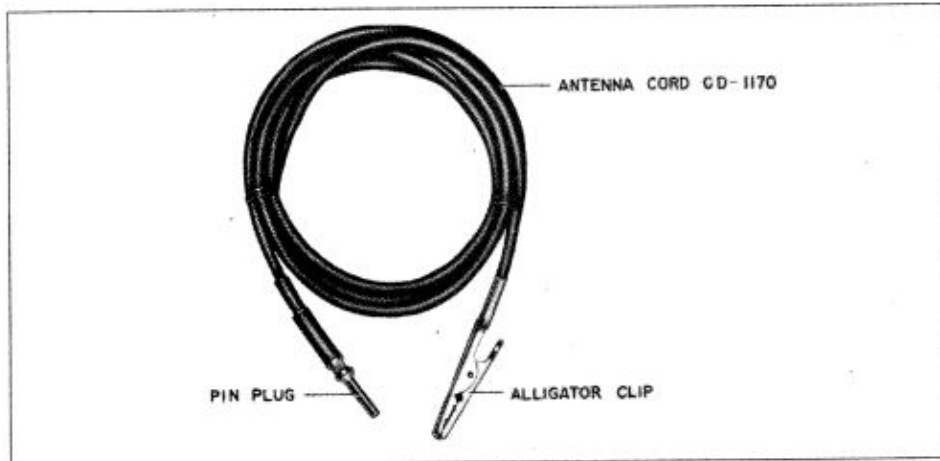

Figure 8—Cord CD-1170
f. CORD CD-1170.—This cord is 3 feet, $2\frac{3}{4}$ inches long and approximately $\frac{1}{8}$ inch in diameter. On one end is an alligator clip and on the opposite end a pin probe for plugging into the "ANT" pin jack on the front panel of Control Unit BC-1303. This cord, with the adapter cord, is packed in the compartment beside and to the right of Test Set I-139-A in Chest CH-234. (See figure 8.)